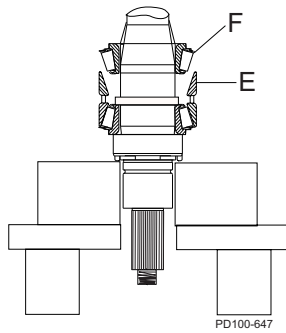

Figure 204 - Install Upper Cup & Upper Cone
7. Place the upper cup (Figure 204, item E) on top of the outer spacer.
8. Lubricate the front bearing area of the shaft with anti-seize, and slip the bearing over the shaft with the roller radius facing up (Figure 204, item F). Press it onto the shaft and into the upper cup (Figure 204, item E).